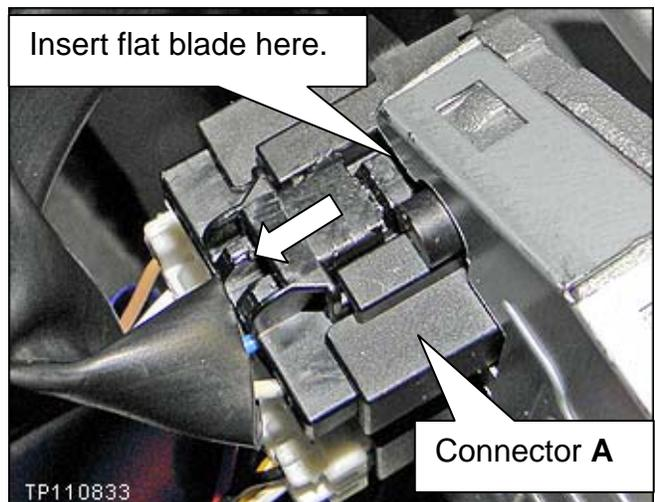

Figure 28
- See Figure 28 for releasing connector A.